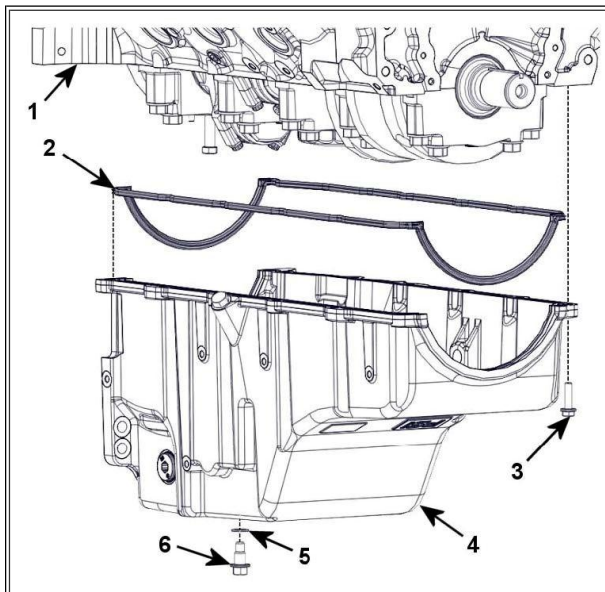

Figure 1: Oil Pan and Gasket Assembly
1. Remove drain plug (Figure 1, Item 6) and washer (Figure 1, Item 5) from the oil pan (Figure 1, Item 4). Drain the engine oil and discard. (See **Engine Oil Filter and Oil Replacement Procedure** in the **Engine Service Manual**)
8. Remove the eight M8 bolts (Figure 1, Item 3) and four M8 nuts securing the oil pan (Figure 1, Item 4) and remove the oil pan (Figure 1, Item 4) from the engine block (Figure 1, Item 1).
9. Remove the oil pan gasket (Figure 1, Item 2) from the oil pan (Figure 1, Item 4) and discard.
10. Remove residual Blue Loctite© from M8 bolts (Figure 1, Item 3), M8 studs, and M12 bolts.
11. Remove residual RTV from the oil pan (Figure 1, Item 4), engine block (Figure 1, Item 1), and front cover.
1. Install the new oil pan gasket (Figure 1, Item 2) onto the oil pan (Figure 1, Item 4).
12. Install the drain plug (Figure 1, Item 6) and washer (Figure 1, Item 5) into the oil pan (Figure 1, Item 4). (See **Engine Oil Filter and Oil Replacement Procedure** in the **Engine Service Manual**)